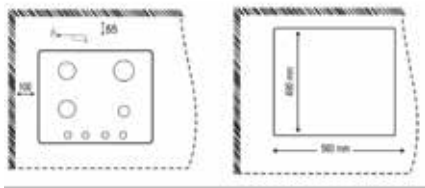

Figure 2
- The hob has been designed to be fitted into a kitchen unit. It can be fitted either under a worktop or in a taller cupboard unit at eye level. Cut out an opening in the kitchen unit as shown in. (See Figure 2 and Figure 3)